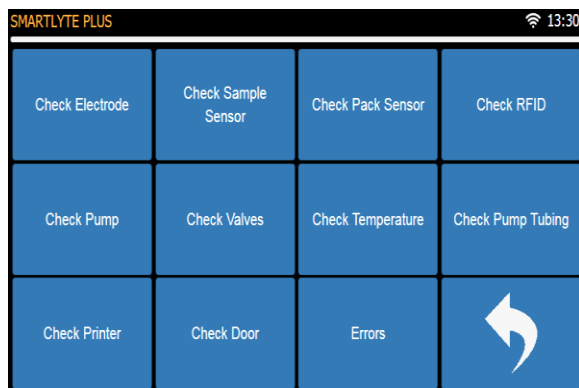

Figure 6-1 Diagnostics Menu
- Press **[CHECK TEMPERATURE]** button on Diagnostic Menu. (Figure 6-1)